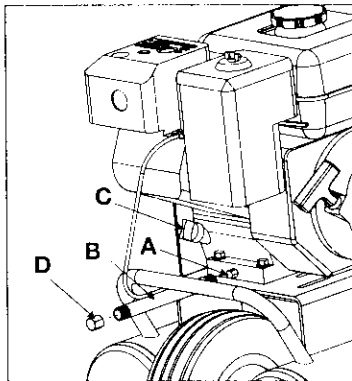

Fig. 3
3. Remove oil drain plug (A) Fig. 3. Dispose of oil drain plug.
4. Obtain the drain plug extension (B) Fig. 3, from the parts bag.
5. Apply thread sealant tape to the threads of the drain plug extension (B).
6. Assemble the drain plug extension (B) and cap (D, found in parts bag) as shown in Fig. 3.
8. Remove the oil fill plug (C) Fig. 3.
10. Replace the oil fill plug (C) and tighten securely.